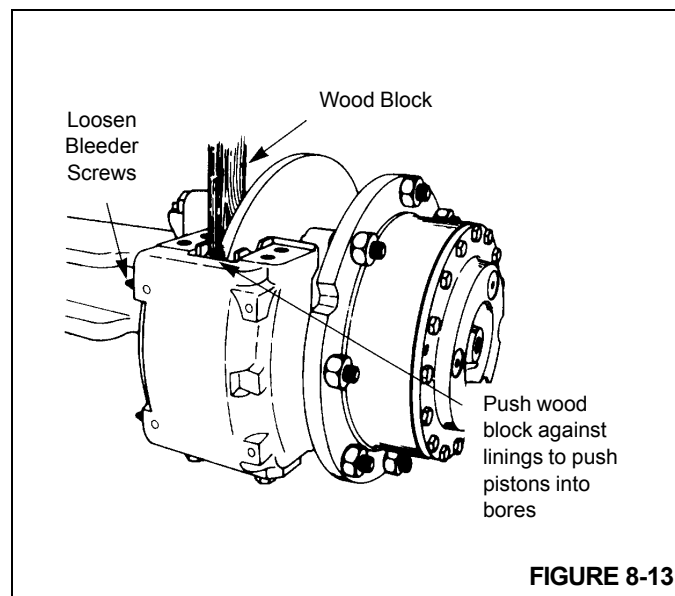

FIGURE 8-13
4. Use a piece of wood against the linings as a pry bar to push the pistons completely into the housing. Tighten the bleeder screws Figure 8-13.